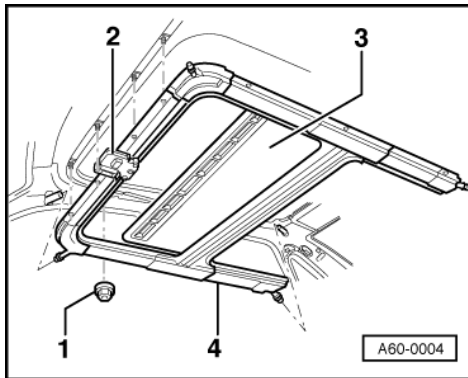

Fig.1-> Removing and installing frame
- ◆ Removing and installing => Fig. 1